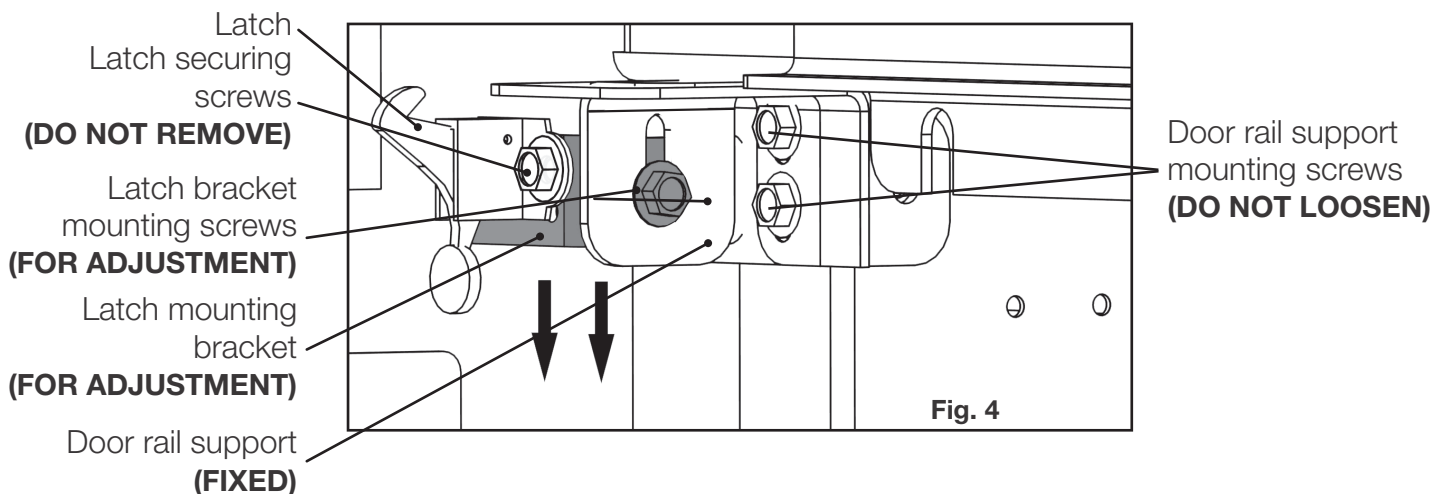

**Fig. 3**
3. For ease of installation during preliminary adjustment, remove the door trim, control cover and access panel (**Fig. 3**).